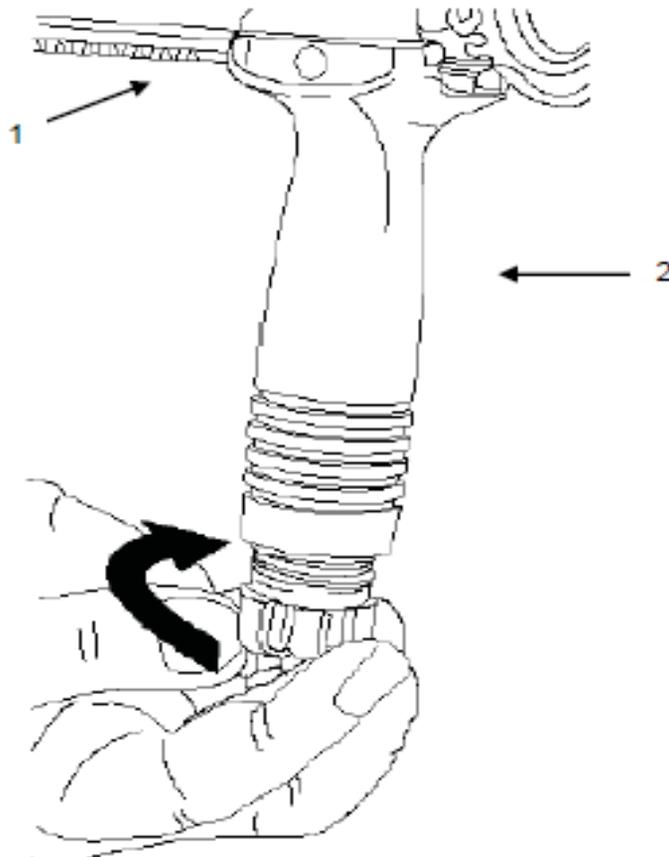

Figure 2. O-Ring Clutch, Hand Grip, Rail.
2. Loosen the O-ring clutch on the bottom of the forward hand grip (Figure 2, Item 2) by turning in a counterclockwise (CCW) direction. Remove the hand grip (Figure 2, Item 2) by sliding it rearward and on rail (Figure 2, Item 1).